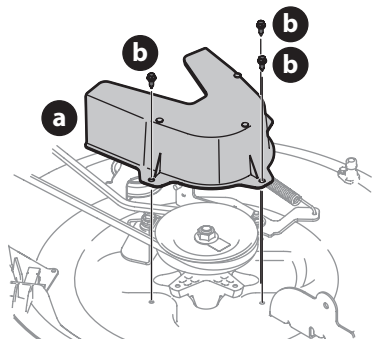
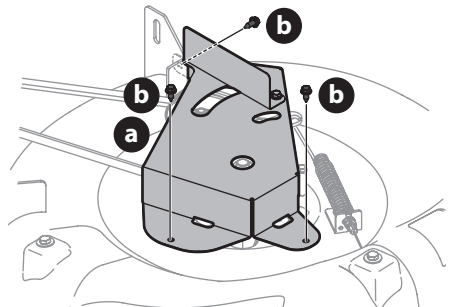

Figure 36
Figure 37
- Remove the deck belt cover (a) by removing the three hex bolts (b) that secure it. See Figure 36 for 30" decks and Figure 37 for 24" decks.